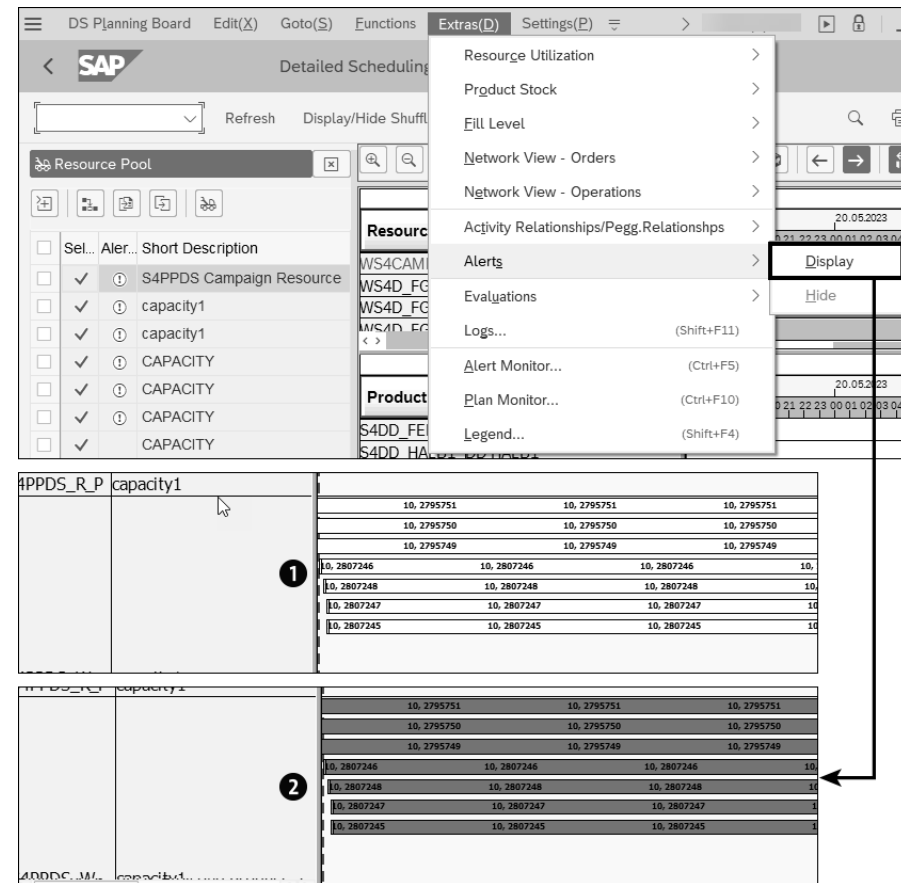

Figure 7.19 Activating Graphical Alert Monitoring in the Detailed Scheduling Planning Board
In the menu options shown in Figure 7.19, you can select **Extras • Alerts Display**, which will calculate alerts for the individual order and operation elements displayed on the detailed scheduling planning board. Elements that have an alert will be animated with a blink (the color of the object will blink white ❶ and then back to the original color ❷ of the object). As this is very performance intensive, you can use this when there are very few objects loaded in the planning board.